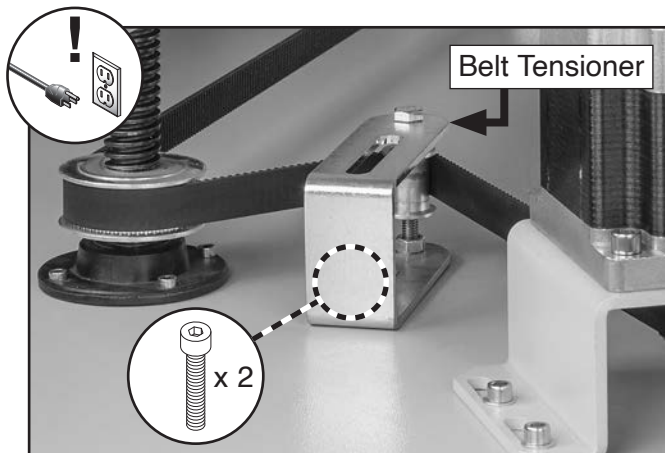

Figure 86. Example of Z-axis belt tensioner components.
5. Loosen (2) cap screws on belt tensioner, then pull belt tensioner away from belt to release tension (see **Figure 86**).